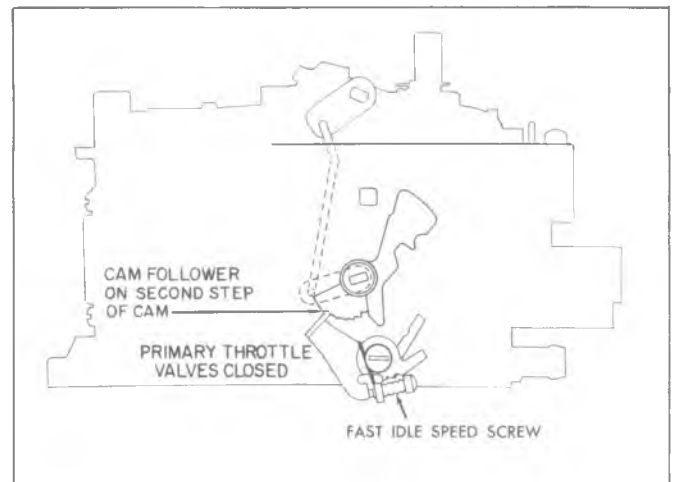

Fig. 2C—Fast Idle Adjustment (Rochester 4MV)
- a. Adjust fast idle screw on Rochester 4MV (Fig. 2C).